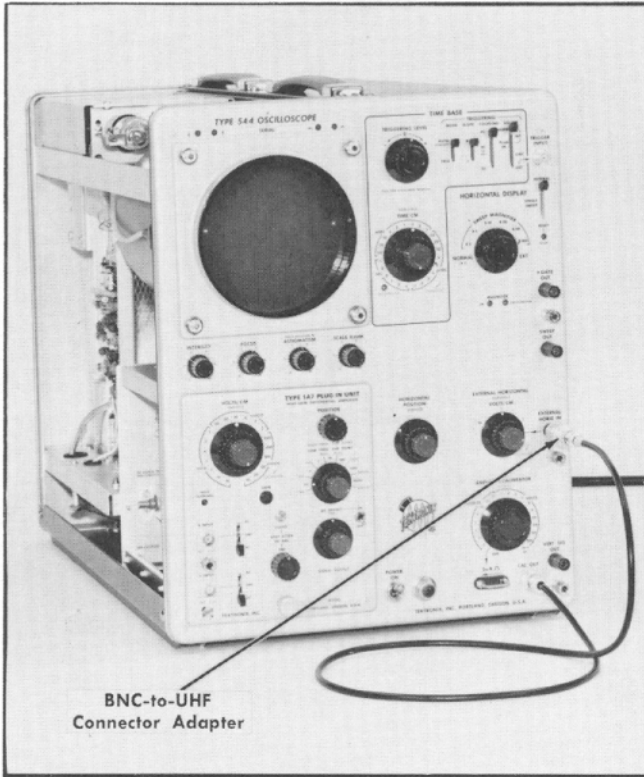

Fig. 6-25. Setup at completion of step 17c.
- c. Apply a 20-V peak-to-peak signal from the oscilloscope calibrator through a coaxial cable and a BNC-to-UHF connector adapter (item 12) to the oscilloscope Ext Horiz In connector. Fig. 6-25 shows the setup.